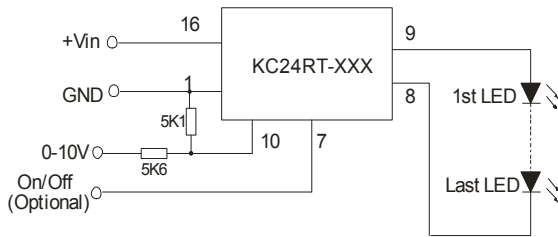

Fig. 6 Analogue dimming circuit
1. DIM pin is the module's PWM dimming pin as shown in Figure 6.
2. The output response time of PWM dimming may be prolonged if add part ②.